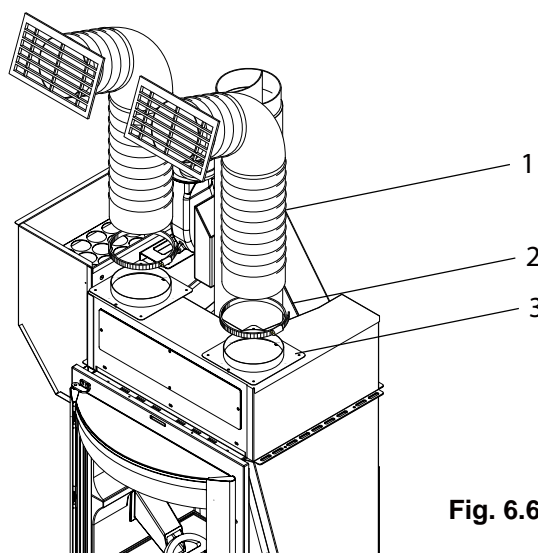

Fig. 6.6.1
Attach the pipe (1) to the collars (3) with the clamps (2) (Fig. 6.6.1).